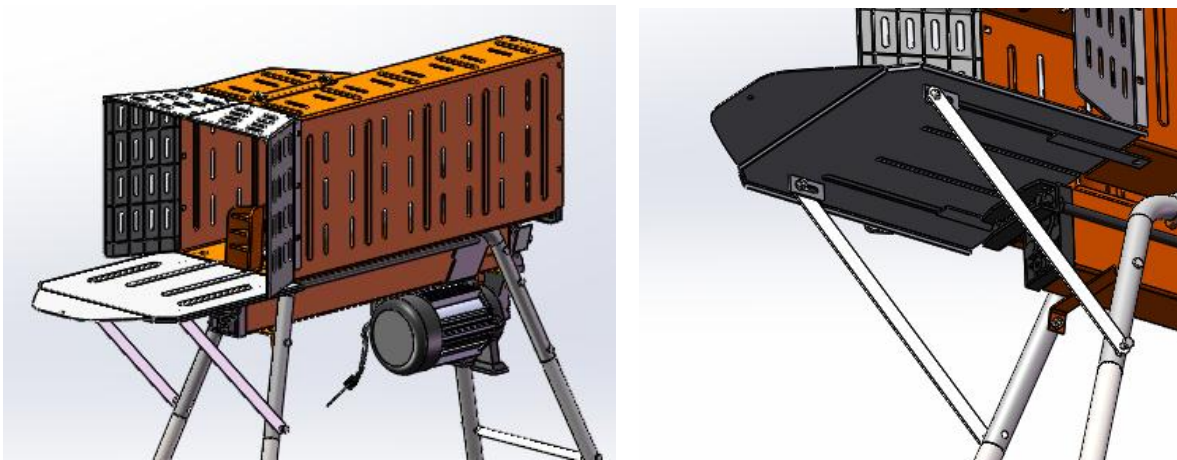

fig.9
4、 Install the stock support plate. Push the two M8×16 screws through mounting hole of the support plate and the stock support plate, tighten with two M8 nuts. Then push two M8×16 screws through the two mounting hole of the stock support plate, push two M8×50 bolts through the mounting hole of the left and right bent legs and mounting hole of the stock support plate on the other side, tighten with four M8 nuts. (Fig. 9)